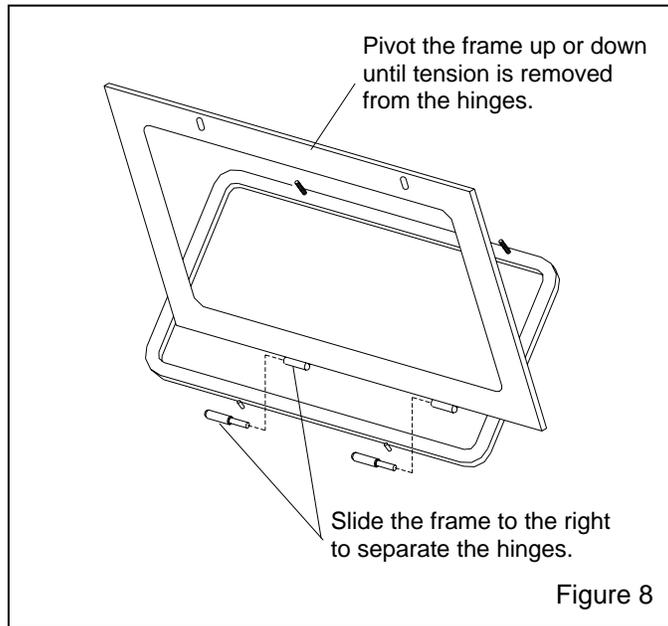

Figure 8
7.5 Window Frame Removal, Figure 8
7.5.4 Slide the frame to the right, to remove. The hinges separate as shown in Figure 8.